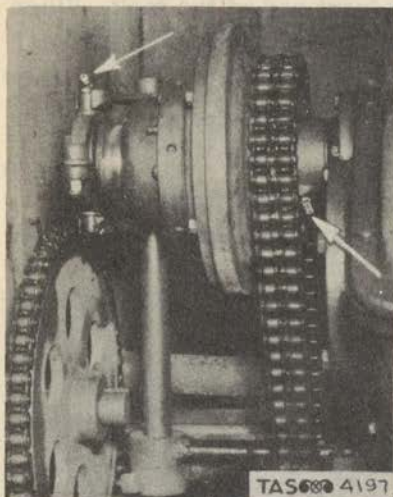

Figure 243. Grease Points on Clutch.
(3) Clutch. There are two grease fittings in the clutch housing which require a small amount of lubricant once each day. The lubricant should be a high-grade, soda-base, short-fibre grease gun lubricant. (Fig. 243)